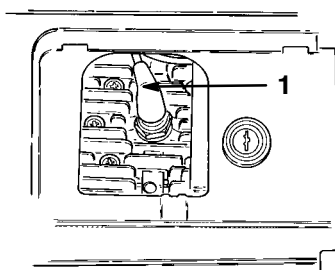

Figure 13
5. Disconnect the wire from the spark plug (Fig. 13).
- Disconnect the wire from the spark plug and remove the spark plug (Fig. 13).